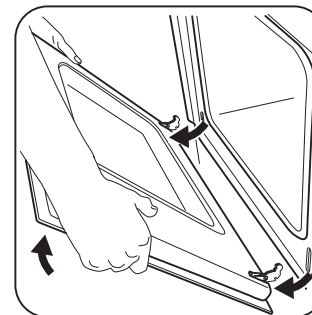

Figure 34: Holding door for removal
3. Firmly grasp both sides of oven door along the door sides. Do not use the oven door handle. Close the oven door halfway to the first opening position. Then, pull forward and remove the door from its seat (Figure 34).
1. Firmly grasp both sides of oven door along the door sides. Do not use the oven door handle (Figure 34).
2. Holding the oven door at the same angle as the removal position, seat the hook of the hinge arm over the roller pins located on each side of the oven door frame (Figure 34). The hook of the hinge arms must be fully seated onto the roller pins.